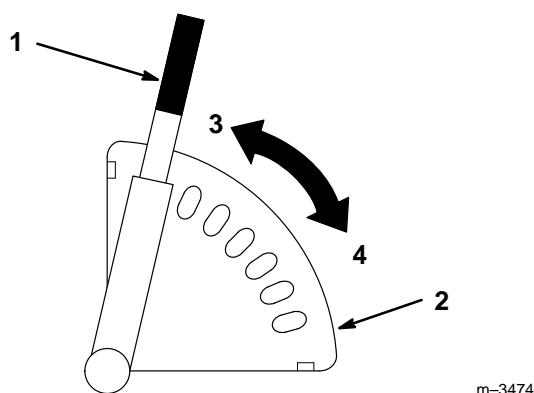

Figure 14
1. Start the tractor, apply the parking brake, and raise the deck. Get off the tractor. Pull the height-of-cut lever out to disengage it from the quadrant. Adjust the height of cut to the desired level. Release the lever inward to lock into the quadrant (Fig. 14).